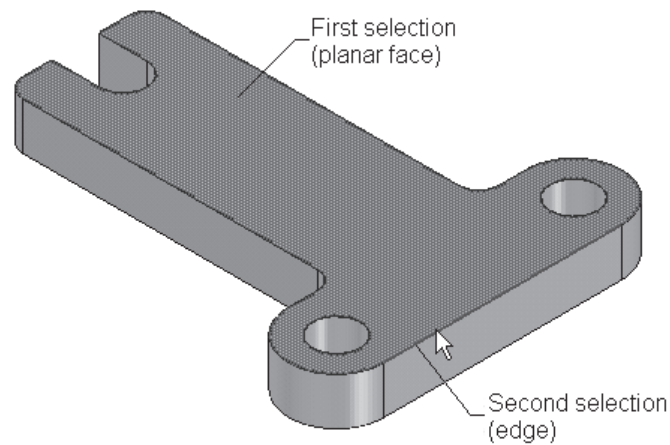

Figure 5-50 Making selections to create an angled plane
3. Select the top face of the base feature, as shown in Figure 5-50.
4. Select the edge through which the angled plane will pass, see Figure 5-50.